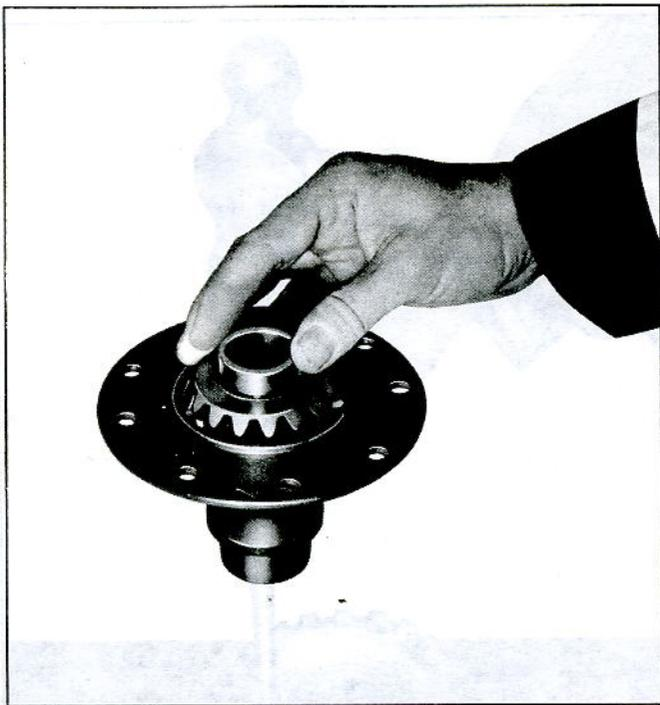

Fig. 29—Removing Side Gear
2. Remove bolts and lock washers securing ring gear and differential cover to differential case, then remove cover, side gear, "U" joint yoke nut (fig. 29), and side gear thrust washer.